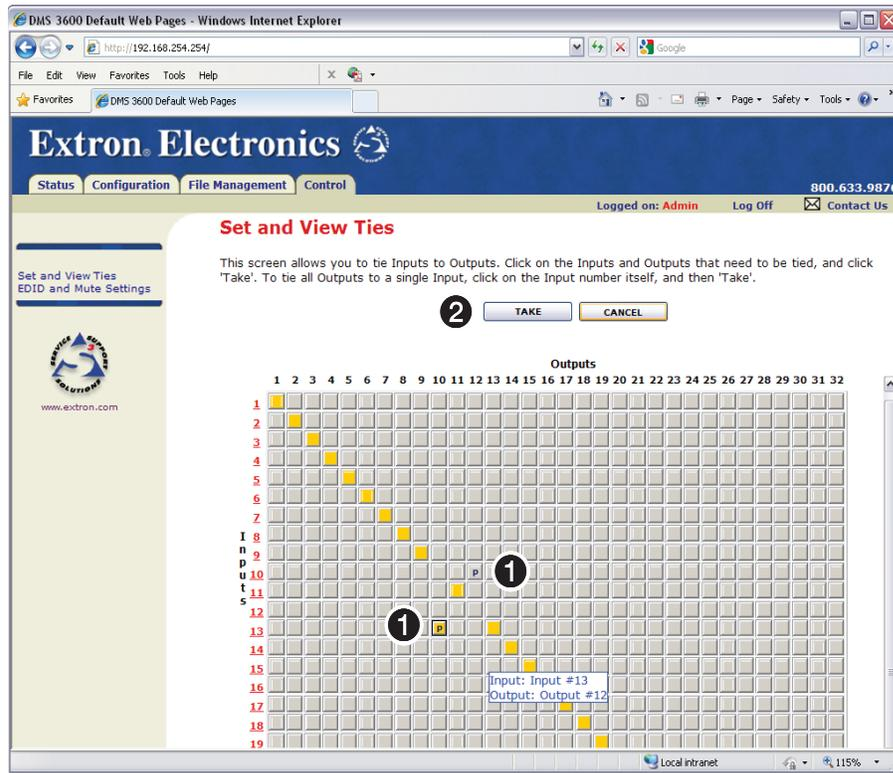

Figure 66. Set and View Ties Page
1. Click **Browse** (see figure 66 [1]).
You can create ties on the **Set and View Ties** page (see figure 66). Access the **Set and View Ties** page by clicking the **Control** tab.